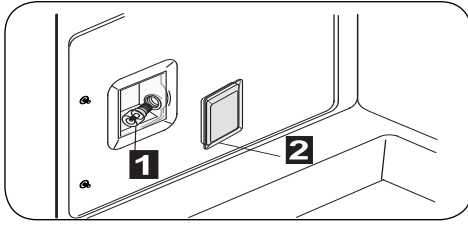

Fig.8
**Lamp holder (fig.8):** Turn glass protection cap **2** counterclockwise and change the lamp . **1**